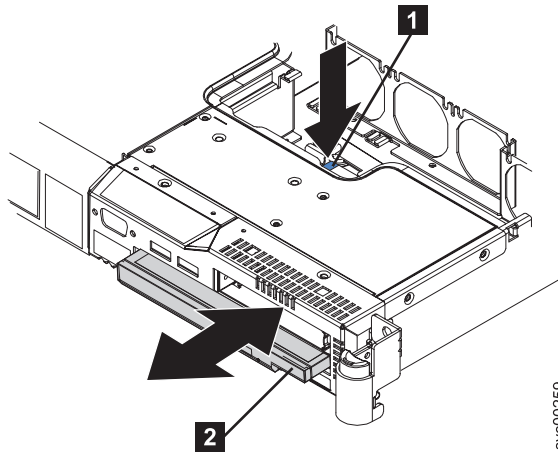

Figure 203. Releasing and sliding out the dummy CD/DVD drive
3. Release the dummy CD/DVD drive **2** by pressing the release button **1** and sliding the drive out approximately 2 cm (1 in), as shown in Figure 203 on page 534. It is possible to push the drive from the back to start it moving. Do not remove the drive from the casing.